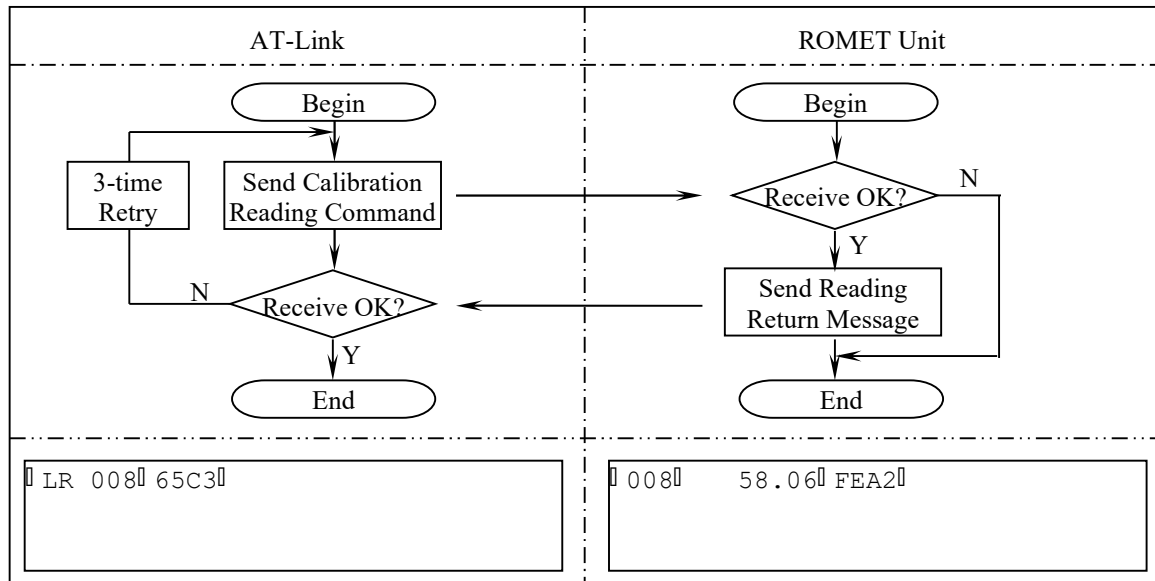

Figure 7-5. Calibration Reading Flow Chart
7.6 Calibration Reading (Figure 7-5 **Obsolete**)